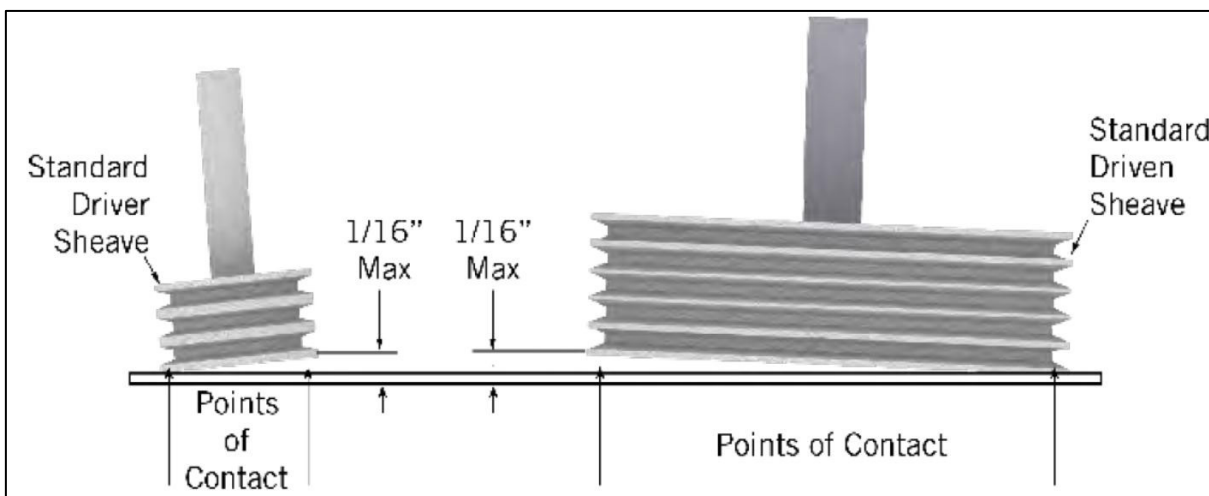

Figure 10. Drive Alignment
- Place a straight edge across the driver and the driven sheaves as shown in **Figure 10**.
- The straight edge should contact all four points as shown in **Figure 10** indicating that the drives are properly aligned.